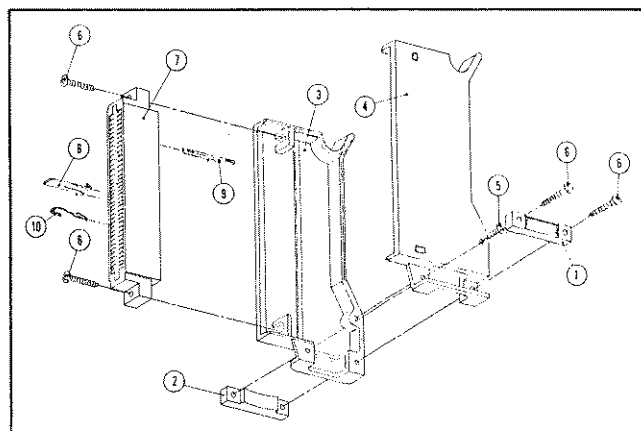
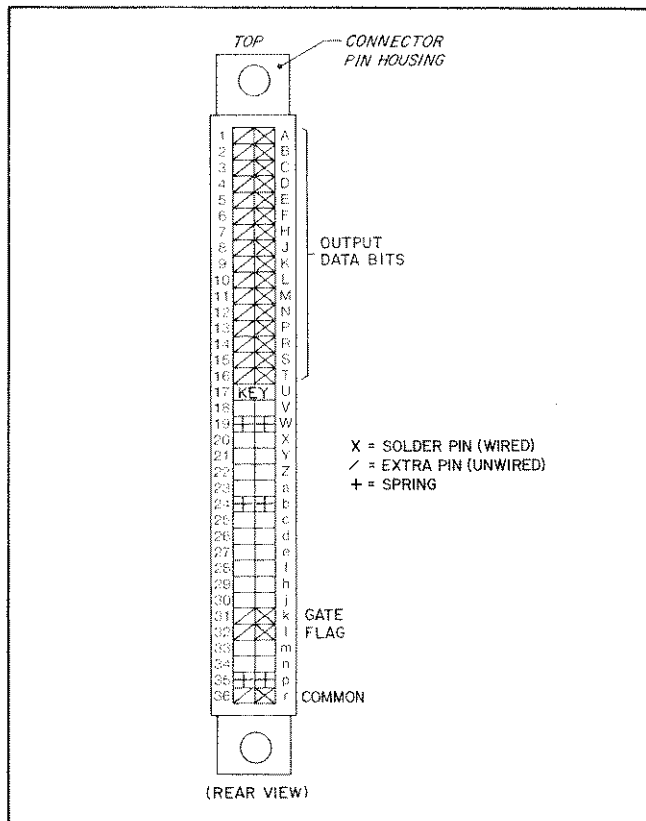

Figure 2-7. I/O Card Edge Connector Assy
Figure 2-8. Sample Pin Configuration for a Digital Output Card
2-27 I/O Card Edge Connector (Figure 2-7). Edge Connector Assemblies interface I/O cards with each other or with external devices. One Edge Connector Assembly, is shipped with each I/O card. Order Model 14703A when extra connectors are required. Each connector assembly consists of the following items:
The encircled numbers key the items to Figure 2-7.
Assembly Procedure (Figures 2-7 and 2-8):
- a. Insert the required number of solder pins ⑨ to be wired into connector pin housing ⑦. Pins are inserted into the applicable pin slots from the rear of the connector housing. Figure 2-8 illustrates a sample pin configuration for a digital output card.
- c. To balance the connector insert extra solder pins ⑨ in the slots next to the wired solder pins (see Figure 2-8).
- d. Insert springs ⑩ into connector pin housing. Springs are inserted from front of connector assembly (see Figure 2-7). A pair of springs is inserted into adjacent connector slots in three places on the connector (see Figure 2-8).
- e. Install key ⑧ (Figure 2-7) in applicable slot. Connector key is installed from front of housing assembly.
- f. Place the hood assemblies ③ and ④ around the connector pin housing ⑦. Ensure that the bottom (high numbered pin slots) of the housing is at the bottom (cable entrance) of the hood assemblies.
- g. Route cable wires through cable entrance and then fasten the left and right hood assemblies together by inserting and tightening screw ⑤.
- h. Fasten connector pin housing ⑦ to the assembled hoods ③ and ④ using 2 screws ⑥.
- i. Insert strain relief ① and proper sized cable clamp ② in the cable entrance and fasten with 2 screws ⑥.